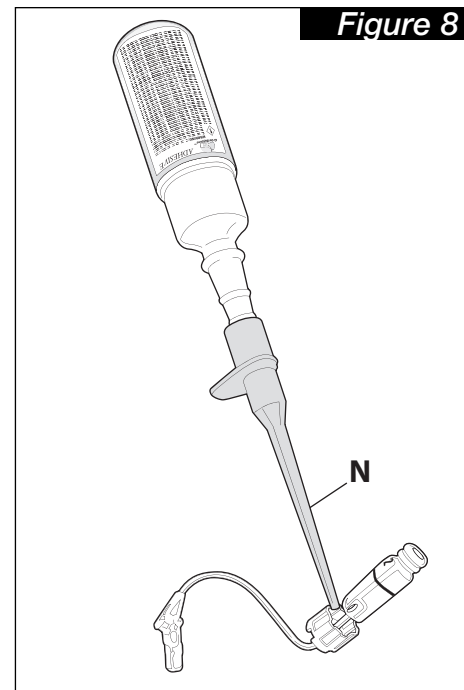

Figure 8
- Gently squeeze a drop of *Gruz Button Adhesive™* into the *Gruz Button™*. (Fig. 8)